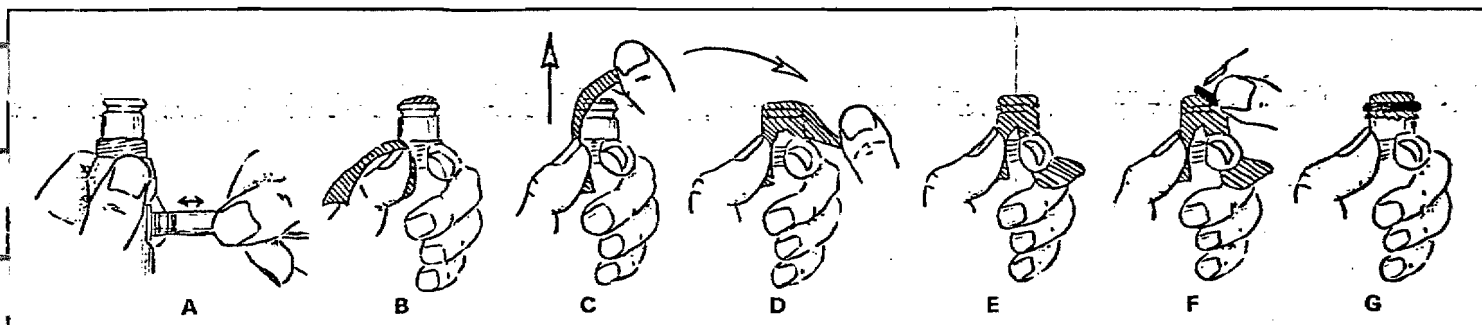

Figure 6
- A. Grasp the probe in your left hand. (See Figure 6.) When preparing the YSI 5739 probe, the pressure compensating vent should be to the right. Successively fill the sensor body with electrolyte while pumping the diaphragm with the eraser end of a pencil or similar soft, blunt tool. Continue filling and pumping until no more air bubbles appear. (With practice you can hold the probe and pump with one hand while filling with the other.) When preparing the YSI 5720 and 5750 probes, simply fill the sensor body until no more air bubbles appear.